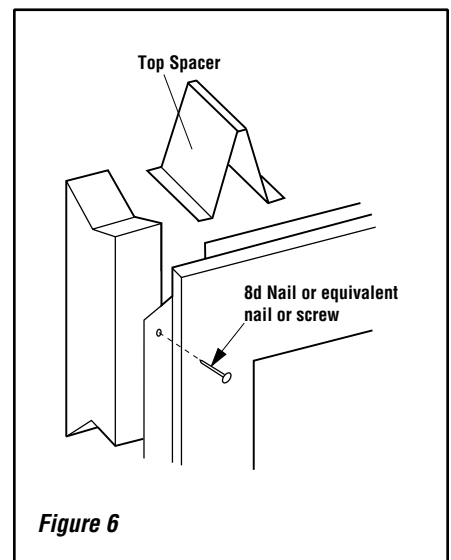

Figure 6
**Step 3.** Fireplace should be secured to side framing members using the full length nailing tabs at the top and bottom of the fireplace front face. Use 8d nails (see **Figure 6**).